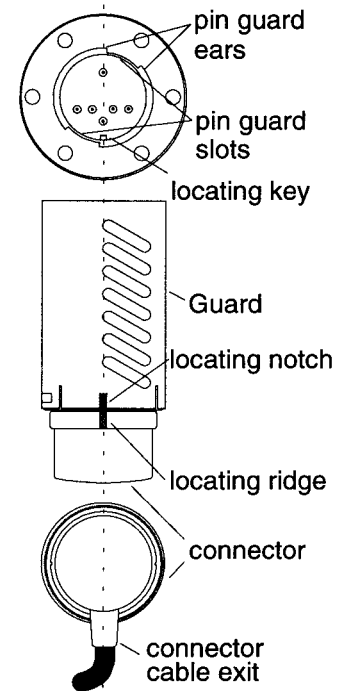

Figure 3-20 Stabil-Ion Gauge connector orientation (prior to installation)
- a. Line up the locating notch on the connector locking ring with the matching ridge on the blue connector shell. See Figure 3-20 on page 3-20.